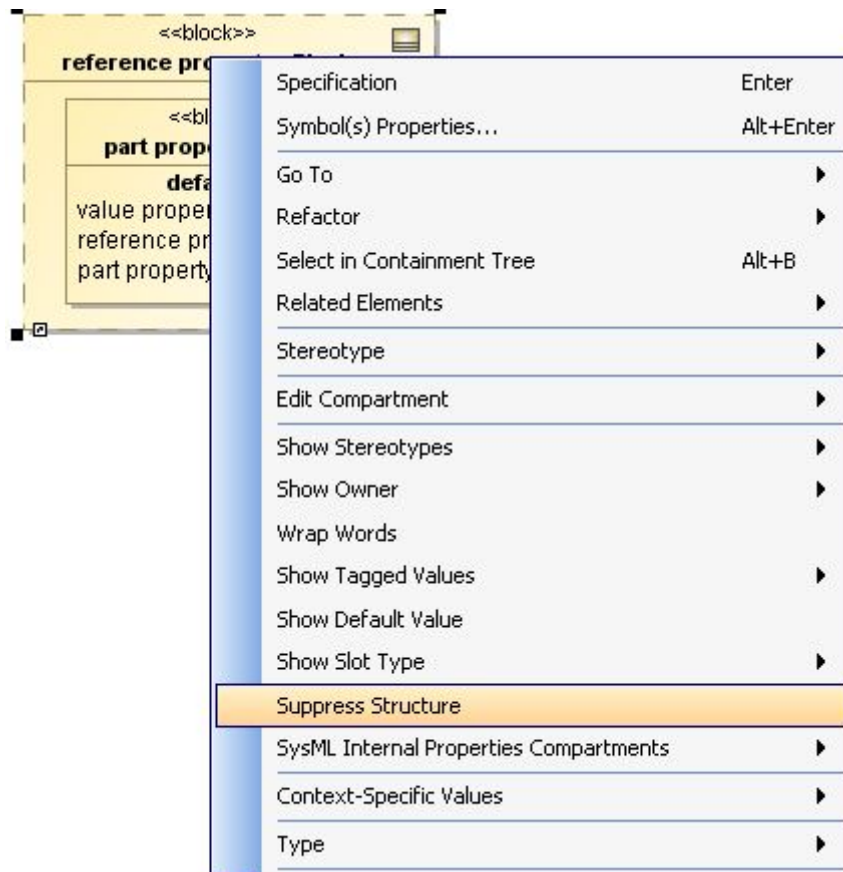

Figure 81 -- Property Shortcut Menu to Display Structure Compartment
1. Right-click a property and clear the **Suppress Structure** option on the shortcut menu (Figure 81) (do the opposite to suppress the structure compartment).